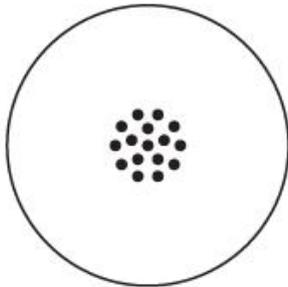
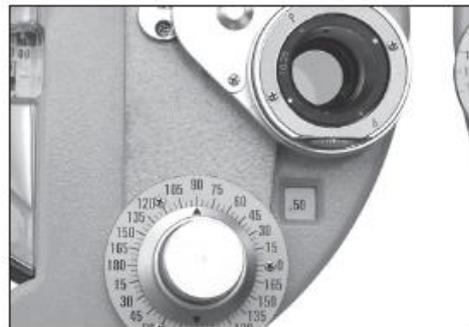
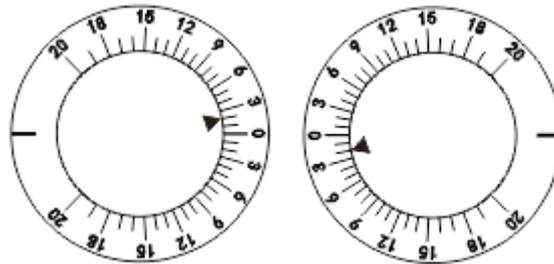

Fig.34
Fig.35
Fig.41
(2) Project the cross cylinder dot chart as shown in Fig.34. Turn rotation knob ⑲ with finger to rotate cross cylindrical lens ㉑. Then ask Testee to compare the two images he sees before and after turning the cross cylindrical lens. Stop at the better side. For example, if what Testee sees is clearest as shown in Fig.35 of cross cylindrical lens, turn cylindrical lens axis knob ㉒ to move axis of cross cylindrical lens by 5° in direction of red dot, so that position of cylindrical lens axis scale ㉓ is positioned at 95° .
(6) Use cross cylinder dot chart shown in Fig.34 with same procedure as described in (2). Now ask Testee to compare the charts he sees. The result is shown as Fig.38. If Testee sees the clearest chart when red dot matches with letter P (as shown in Fig.38), it means Testee's diopter has increased by 0.25D (now Testee's diopter power is 0.75D).
(1) Rotary Prism Method
a. Tests are performed for left and right eyes independently, in which, binocular prism shall be used for both eyes. On the whole, these tests are referred to as the binocular balance test. Set both eyes to O. Use the chart shown in Fig.34 and set prisms as $2\Delta U$ (right eye), and $2\Delta D$ (left eye) (see Fig.41)